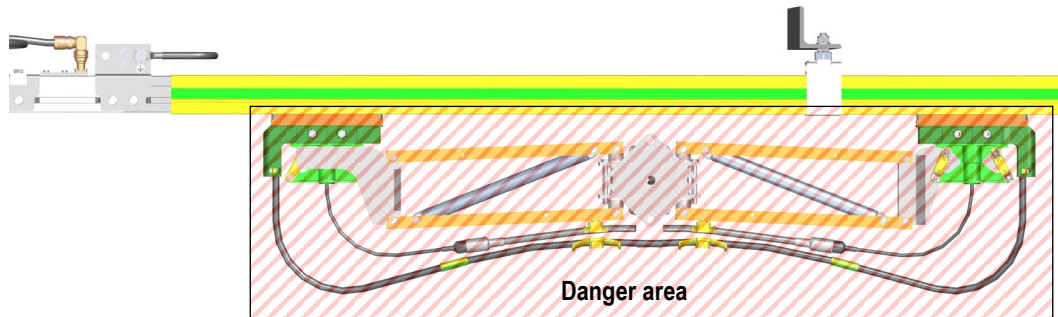

Fig. 1: Sketch of the hazard area at the current collector
- The spring force must be taken into consideration, during all works on the current collector. Do not reach between profiles and current collectors (see Fig. 1).